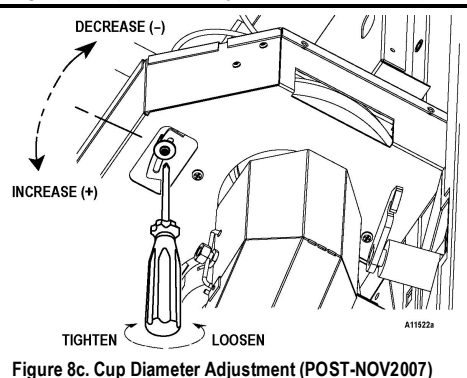

Figure 8c. Cup Diameter Adjustment (POST-NOV2007)
- 3c. When steps 3a and 3b are satisfied then tighten the screw. See **Figure 8c**.